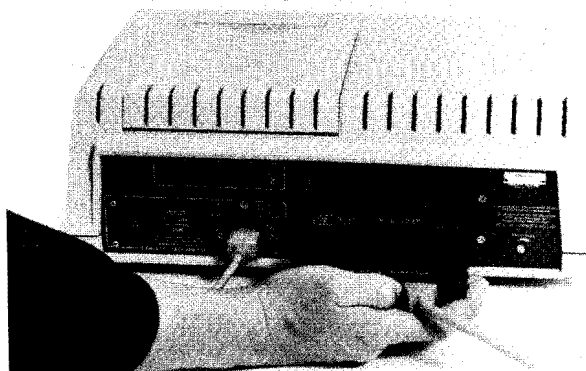

Figure 2-7. Installing the Interface
3. Refer to Figure 2-7 and install the interface into one of the I/O slots. Do not force the interface into the I/O slot. Notice that the tracks are keyed to prevent the interface from being inserted upside-down. If you intend to run the functional test, refer to that discussion at the end of this section before proceeding with step 4.